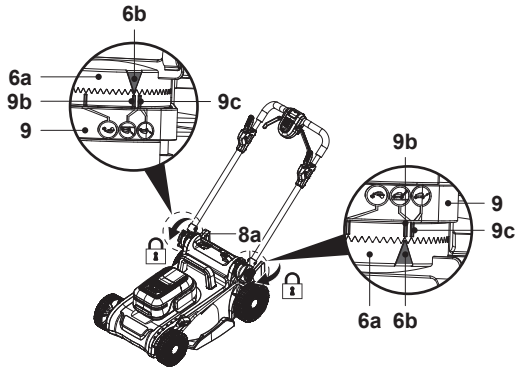

Fig. 2
4. Align the indicating triangle (6b) on dial plate (6a) with one of the handle height indicators (9b/9c) on handle support (9), then secure the handle assembly (4, 6) by tightening the locking knobs (8a) (Fig. 2).
5. Ensure the two lower handle bars (6) are assembled on the same height level on both sides.
6. Make sure that the control cord (20) runs on the upper side of the lower handle bar (6).